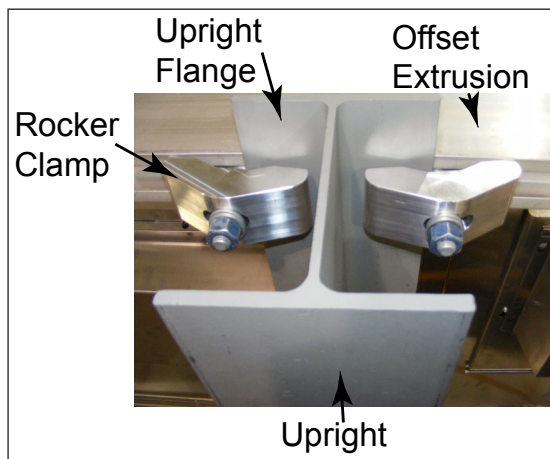

Figure 6: Rocker Clamps Engaging Uprights
19. On each end of the display, slide the pre-assembled offset extrusion and the rocker clamps over until they engage the upright flanges. Refer to **Figure 6**.